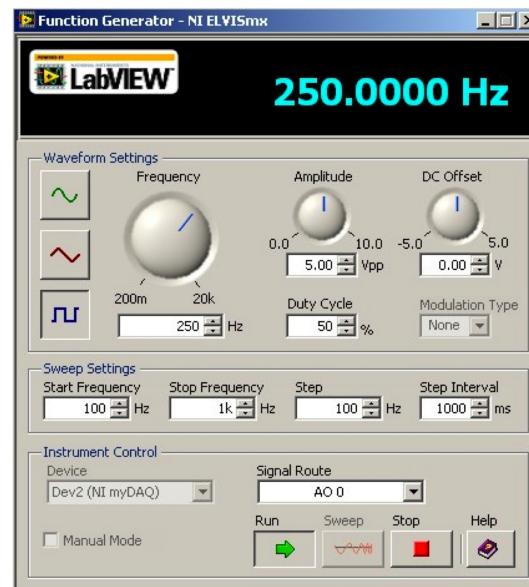

Figure 4: Function Generator Setup
The Function Generator will provide a square wave to drive your RC circuit just as you did using Multisim. It needs a lot of settings as shown in Figure 4.
- Your setup should look like Figure 4. Click Run (green arrow) to start.